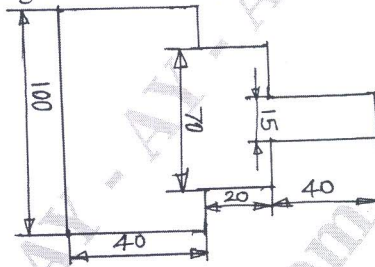

Fig Q7(a)
- 7 a. Write a CNC program for turning the following profile as shown in the Fig Q7(a).